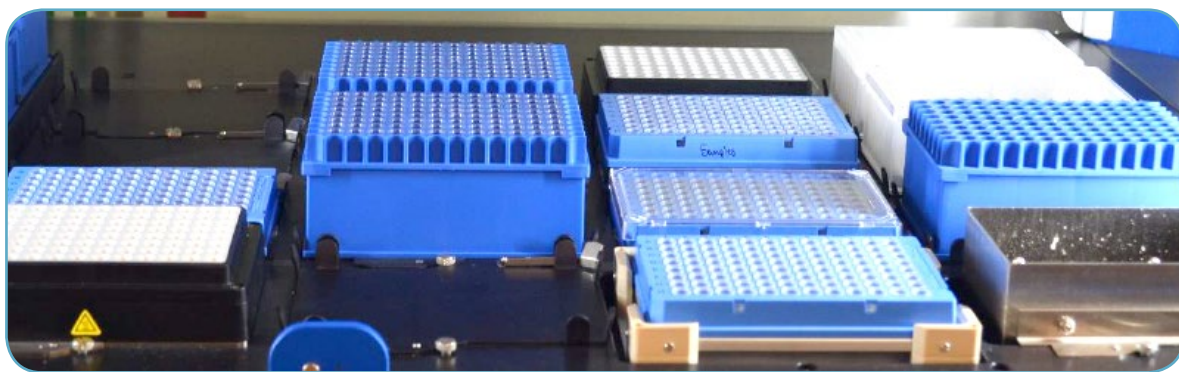

Figure 8. Deck layout for the Post-Capture PCR SPRI cleanup
3. Follow the on-screen instructions to set up the deck, as shown in Figure 8.